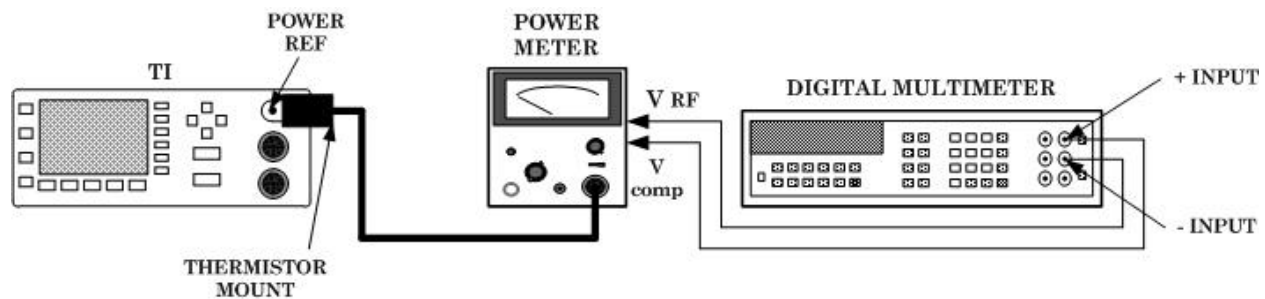

Figure 2. Power reference level - equipment setup.
- (1) Set power meter power **OFF ON** pushbutton to **OFF** position.
- (2) Disconnect thermistor mount from power meter interconnect cable.
- (3) Connect digital multimeter (resistance mode) between V_{RF} terminal center conductor on power meter (rear panel) and pin 1 of thermistor mount end of power meter interconnect cable.
- (4) Round off digital multimeter indication to two decimal places and record this value as power meter internal bridge resistance R (value will be approximately 200Ω).
- (5) Connect thermistor mount to power meter interconnect cable.
- (6) Connect equipment as shown in figure 2.
(17) Press TI **Zero Cal**, [**Cal**], **More**, [**Power Ref On**] keys. Record digital multimeter indication, (rounded off to two decimal places), as V_1 .
(18) Disconnect digital multimeter negative lead from power meter V_{RF} (fig. 2) and connect digital multimeter negative lead to power meter chassis ground. Record digital multimeter indication as V_{COMP} .
(19) Calculate the **POWER REF** output level PRF from the below listed formula:
(4) Connect digital multimeter (resistance mode) between V_{RF} terminal center conductor on power meter (rear panel) and pin 1 of thermistor mount end of power meter interconnect cable.
(5) Round off digital multimeter indication to two decimal places and record this value as power meter internal bridge resistance R (value will be approximately 200 Ω).
(6) Connect thermistor mount to power meter interconnect cable.
(7) Connect equipment as shown in figure 2.
(8) Press **Preset Local**, [**Confirm**] keys.
(9) Set power meter **RANGE** switch to **COARSE ZERO** and adjust front panel **COARSE ZERO** control for a zero meter indication.
(10) Fine zero power meter on most sensitive range then set power meter **RANGE** switch to **1 mW**.
(11) Ensure digital multimeter input terminals are isolated from chassis ground for (12) below.
(12) Adjust digital multimeter (dc mode) controls to measure microvolts.
(13) If digital multimeter indication is 400 μV or less, record digital multimeter indication and proceed to (15) below; if not, proceed to (14) below.
(14) Hold power meter **FINE ZERO CONTROL** and adjust **COARSE ZERO** control for a digital multimeter indication 200 μV or less. Record digital multimeter indication.
(15) Round off indications recorded in (13) or (14) above to two decimal places and record this value as V₀.
(16) Set power meter to highest range.
(17) Disconnect digital multimeter negative lead from power meter V_{RF} (fig. 2) and connect digital multimeter negative lead to power meter chassis ground.
(18) Press **TI Zero Cal**, [**Cal**], **More**, [**Power Ref On**] keys.
(19) Round off indications to two decimal places and record this value as V_{COMP}.
(20) Reconnect digital multimeter negative lead to power meter V_{RF} input.
(21) The multimeter is now set up to measure V₁.
(22) Calculate the required value of V₁ using the following formula: